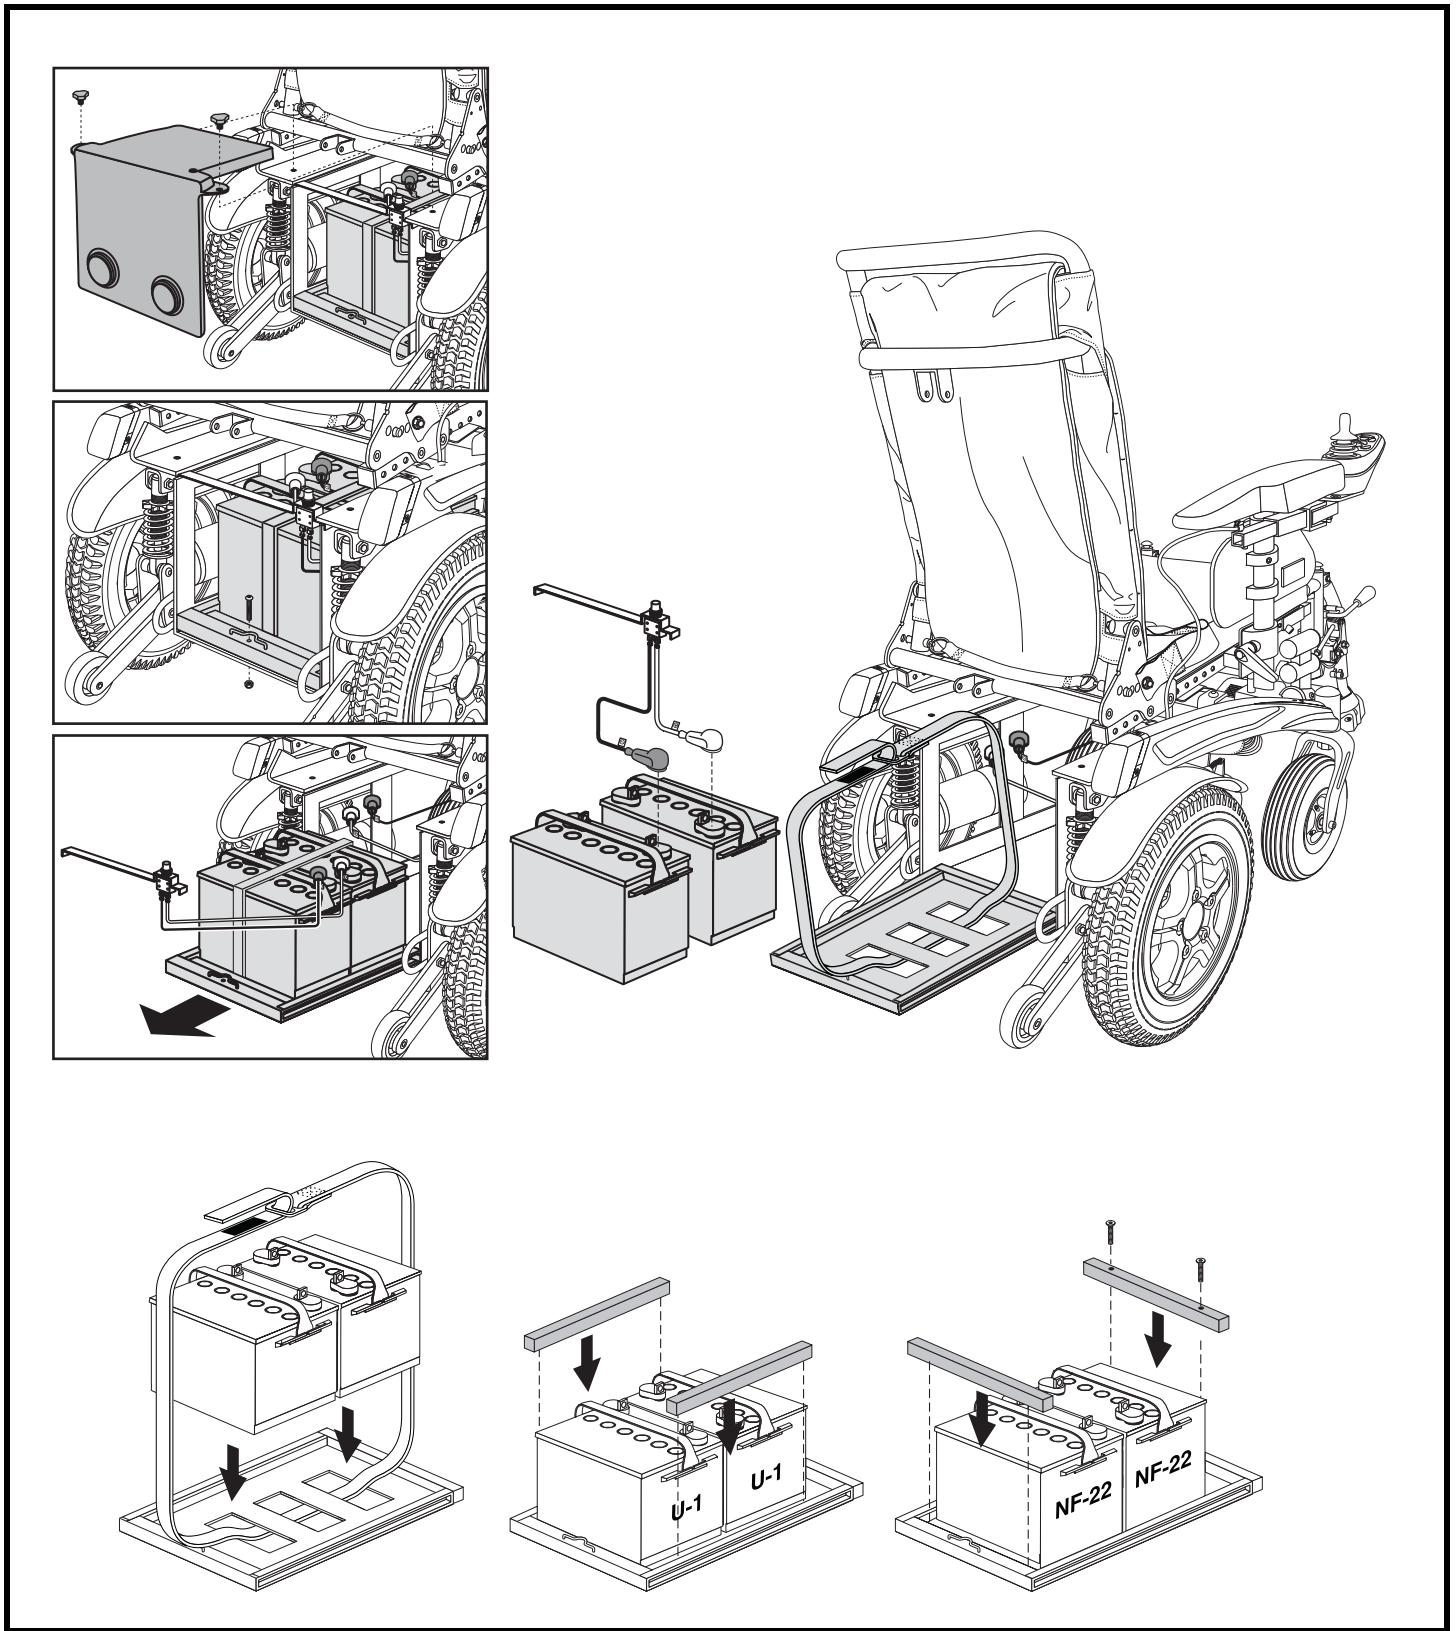

Figure 29. Battery Replacement
A battery wiring diagram is printed on a decal located on the battery door. See figure 29. Refer to the specifications table for correct battery specifications.
6. Lift the battery tray by the handle and then slide the battery tray back. **See figure 29.**
10. Install the new batteries. **See figure 29.**
12. Connect the front battery cable to the front battery terminals according to the battery wiring diagram. **See figure 29.**
13. Connect the rear battery cable to the rear battery terminals according to the battery wiring diagram. **See figure 29.**